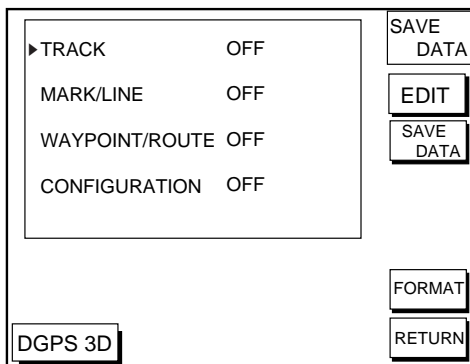

Figure 9-1 SAVE DATA display
3. Press the soft key labeled SAVE DATA TO MEMORY CARD. The SAVE DATA display (Figure 9-1) appears.